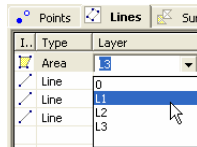

Figure 4-44. Selecting a Layer in the Line Tab
- Double-click in the *Layer* column and select a different layer from the drop-down list in the left panel of the *Line* tab (Figure 4-44).